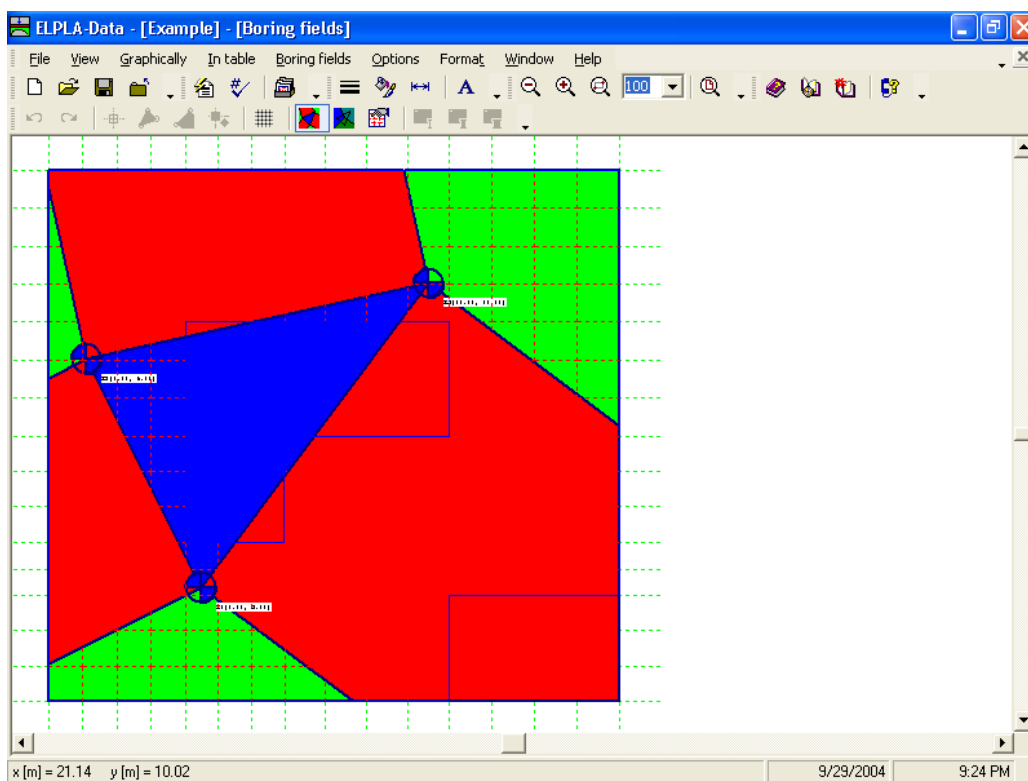

Figure 1-26 "Boring fields" embedded program
To consider the Interpolation Method in the analysis, choose "Boring fields" command from "Data" menu. The following embedded program in Figure 1-26 appears with a default method. *ELPLA* considers that the Interpolation Method is the default one, which takes into account the irregularity of the subsoil. In most cases *ELPLA* defines the interpolation zone types I, II, III automatically such as in this example. But in the case of extreme boring arrangements, the user must define these zones.
- Choose "Save boring fields" command from "File" menu in Figure 1-26 to save the data of boring fields
- Choose "Close boring fields" command from "File" menu in Figure 1-26 to close the "Boring fields" embedded program and return to the main window of *ELPLA-Data*